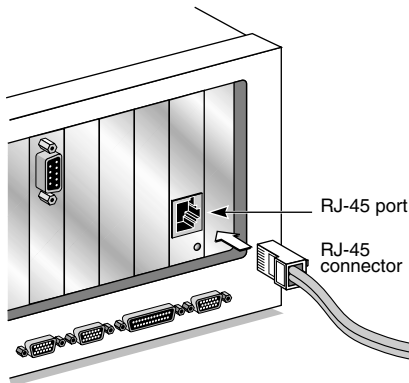

Figure 1-3 Connecting to the RJ-45 Port on the 3C509B NIC
- 1 Plug the RJ-45 connector on the twisted-pair network cable into the RJ-45 port on the NIC backplate. See Figure 1-3.**